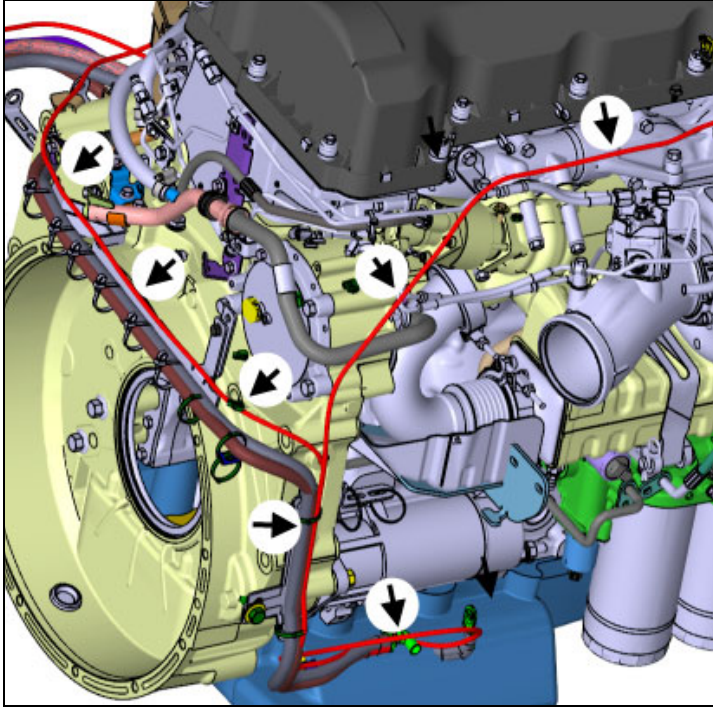
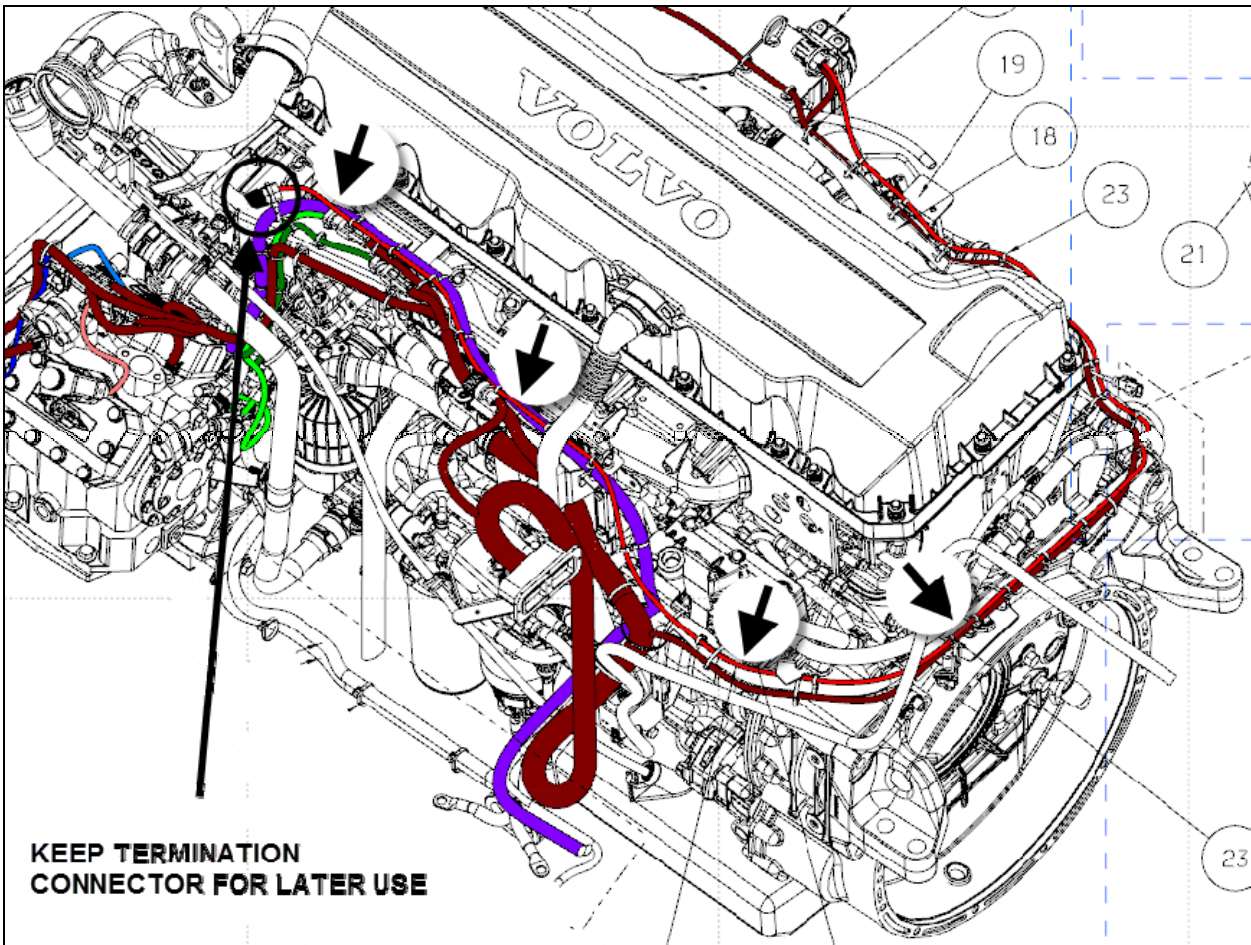

FIGURE 19: REMOVE LTD
FIGURE 20: REMOVE LTD. KEEP TERMINATION CONNECTOR (A.K.A. EOL)
- 1) Cut all nylon cable ties and remove the entire LTD (cable with red sheath). On the engine hot side, the LTD may be routed under the starter and forms a loop and then comes back and runs to the cold side of the engine (FIGURE 19). On the cold side, the LTD is routed as shown on FIGURE 20. Keep the termination (a.k.a. EOL End of Line device) connector found at the end of the LTD for reused.